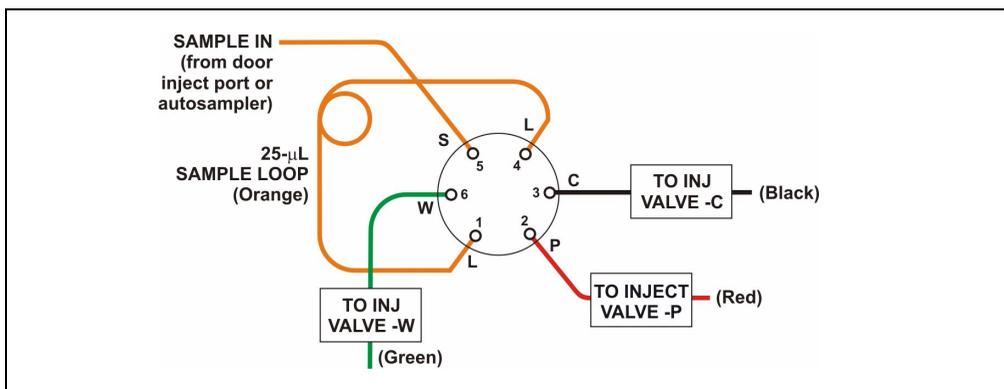

Figure 3-12. Injection Valve Connections
1. Make sure the injection port on the ICS-2000 front door (see Figure 2-1) is connected to the sample port **S (5)** on the injection valve (see Figure 3-12).
1. Disconnect the waste line from port **W (6)** of the injection valve (see Figure 3-12) and attach a shorter line: 25 to 30 cm (10 to 12 inches) of PEEK or Teflon® tubing.